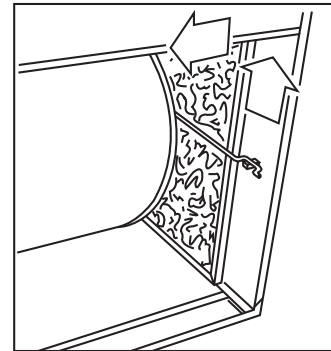

Fig. 13 - Release Filter Retaining Rod (Side Inlet)
- a. Remove filter retainer from latch. See Fig. 13.